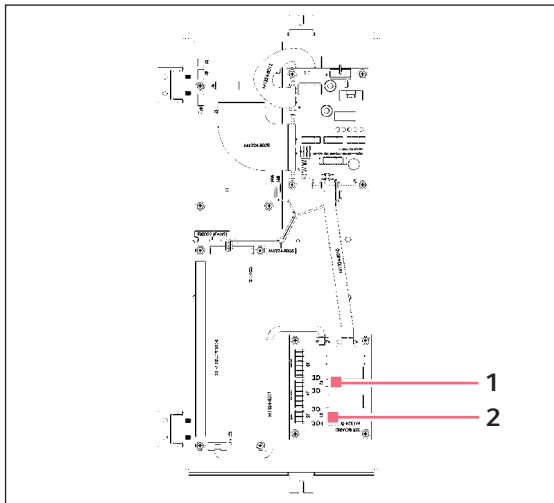

Fig. 7-3: Rear of electrical panel (E25R)
E25R models have (2) 8 A electrical fuses, housed in the 2 fuse holders located on the M1324-7003 PCB (see Fig. 7-3 on p. 30).